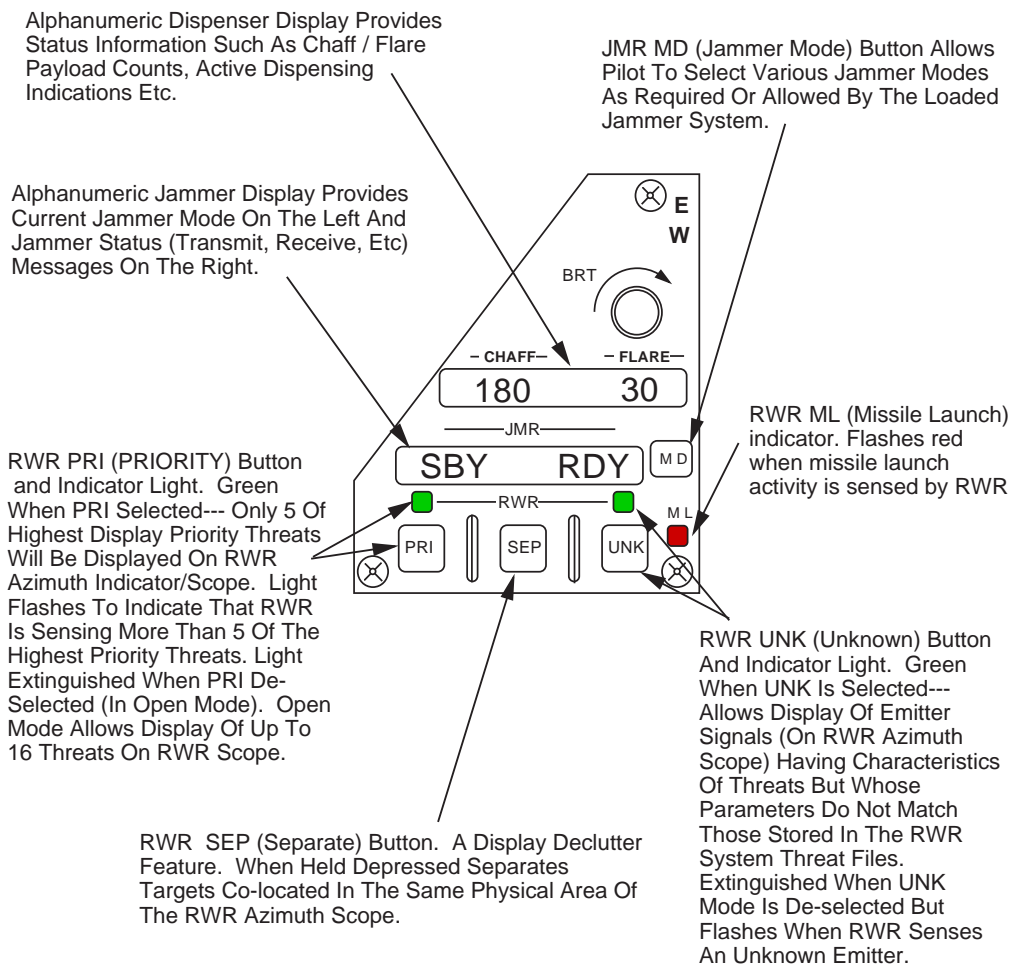

Figure 7-3 EWPI Switches
**EWPI Controls and Functions.** The EWPI includes three indicators, four control buttons, and two 8-character alphanumeric display windows that provide specific functions for the dispenser, jammer, and radar warning receiver subsystems. In addition, a rheostat is located at the top of the EWPI provides brightness control for the display windows and indicators. The EWPI switches are discussed below and shown in Figure 7-3.